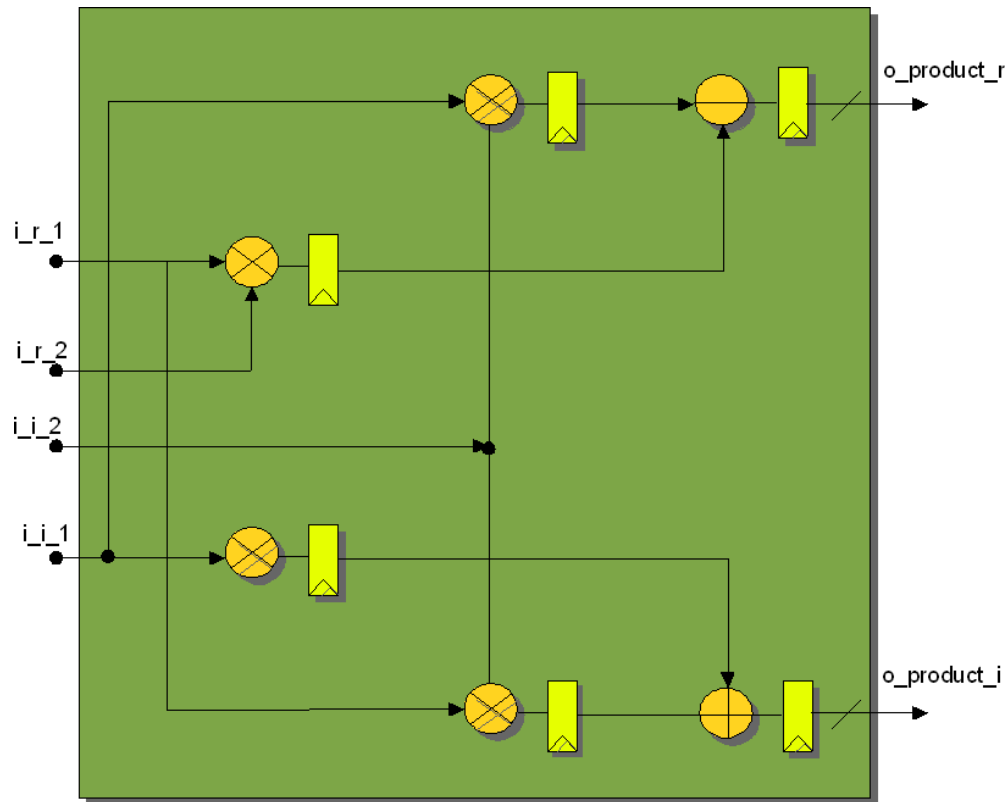

Figure 2: Complex Multiplier Architectural diagram.
3. Figure.2 shows architecture of complex multiplier IP core.